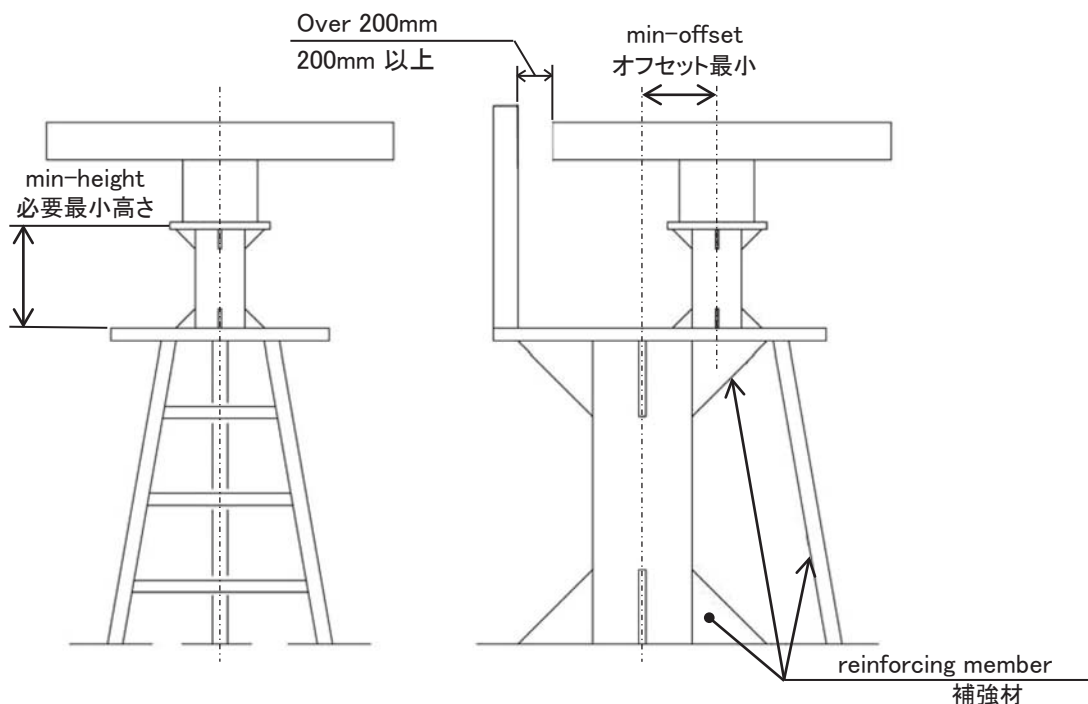

Fig.1-1 Installation of antenna
- To avoid the radiating section coming in contact with other installed objects while it is rotating, ensure that there is at least 200 millimeters from the swing circle (turning radius) to other installed objects (Fig.1-1). The swing circle of the X-band Radar Antenna is as shown in Table 1-1.